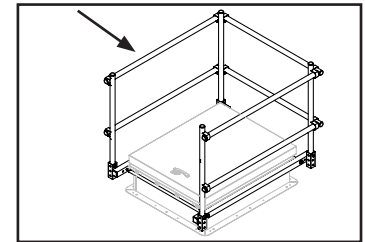

FIG. 7
5. Install the horizontal rails, making sure they are correctly located. (Fig. 7)